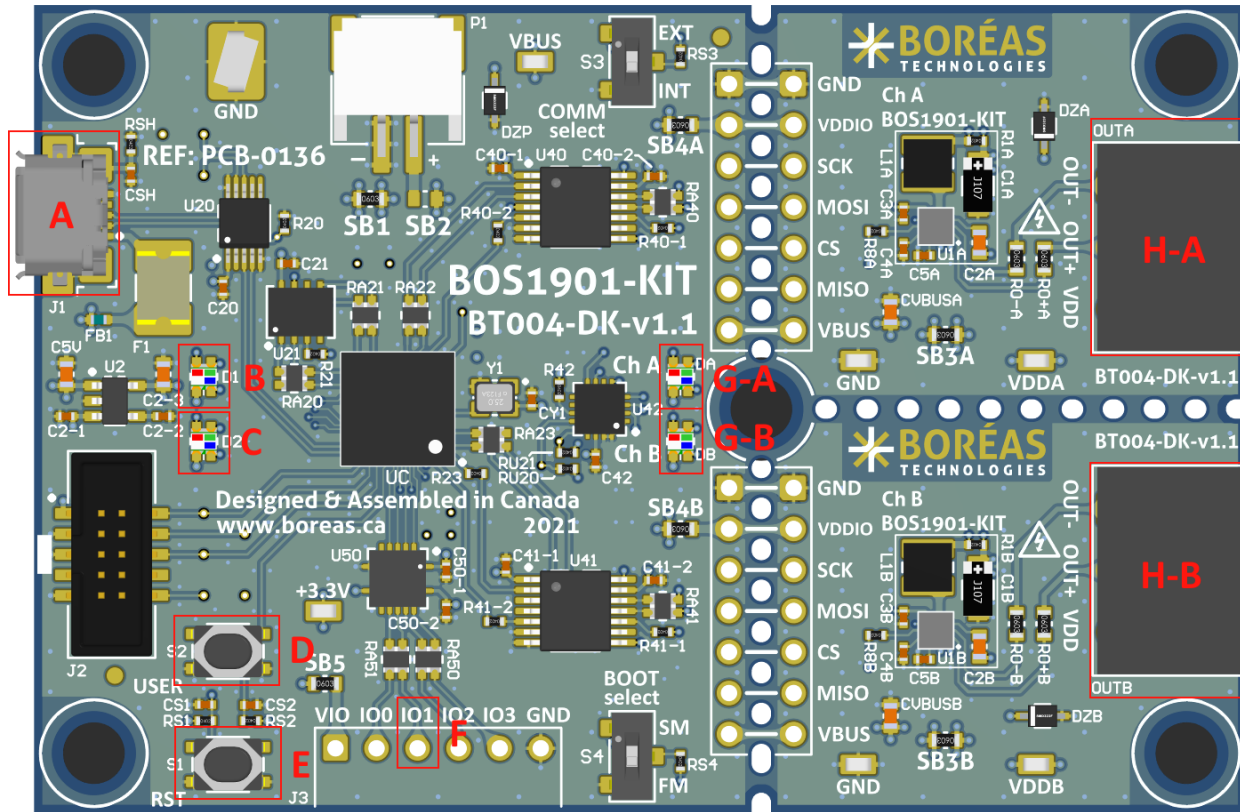

Figure 2: BOS1901-KIT board user interface
3. Using a small slotted screwdriver, install TDK 1204 piezo electric actuator on terminals block plugs. **Pay attention to connect the red wire on the OUT+ terminal and the black wire on the OUT- terminal.** Refer to Figure 2 to identify location of OUT+ and OUT- on the terminal block.